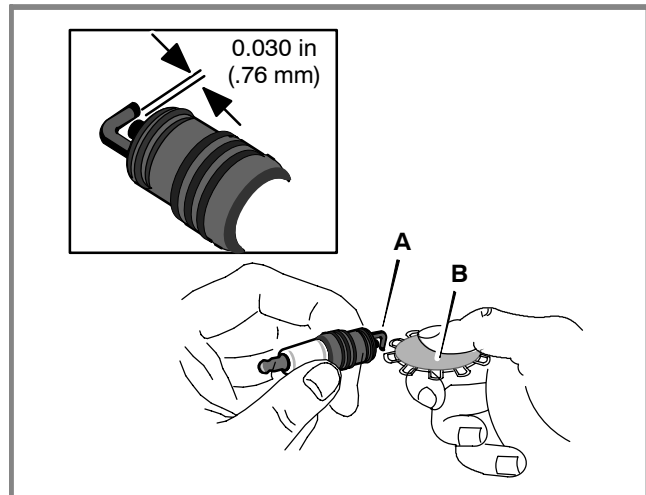

Figure 26: Check Spark Plug
Check the spark plug every 100 hours. Replace the spark plug if, upon inspection, the electrode (A) is burned or worn. Make sure that the spark plug is clean. Check the gap with a wire gauge (B). If necessary, reset to 0.030 in (0.76 mm). See (Figure 26).